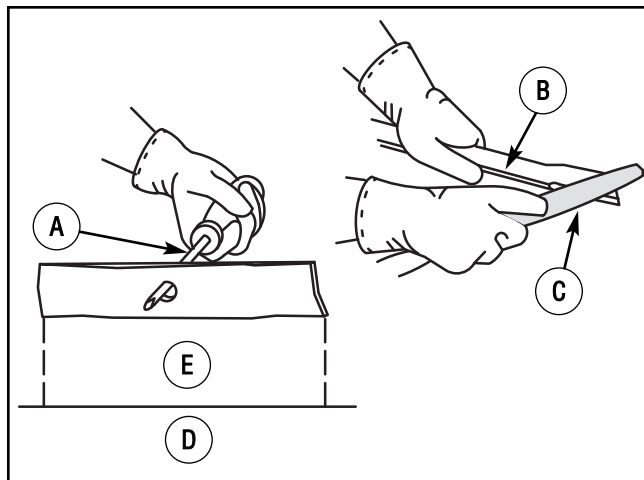

Figure 21: Sharpening the blades
4. Sharpen the **blade** with a **file** (Figure 21). Make sure you keep the original bevel angle.
5. Make sure the **blade** is balanced. Use a **screwdriver** and hold the **blade** parallel to the **ground** (Figure 21). A **blade** that is balanced will stay parallel to the **ground**. If the **blade** is not balanced, the heavy end will rotate toward the **ground**. Sharpen the heavy end until the **blade** is balanced.